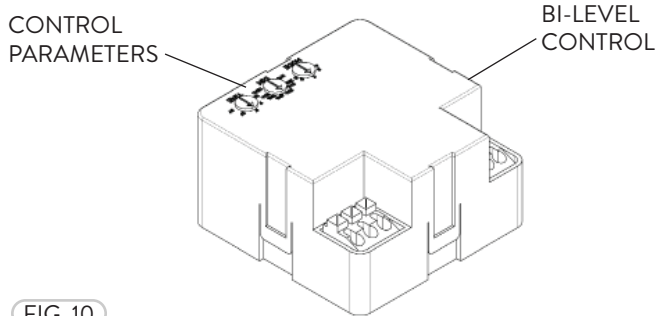

FIG. 10
- The integrated Bi-Level Occupancy Control is a programmable microwave motion detector (Fig. 10). The Bi-Level Control is pre-installed. **NOTE:** Subject to availability, might substitute with other sensor models with similar functions.